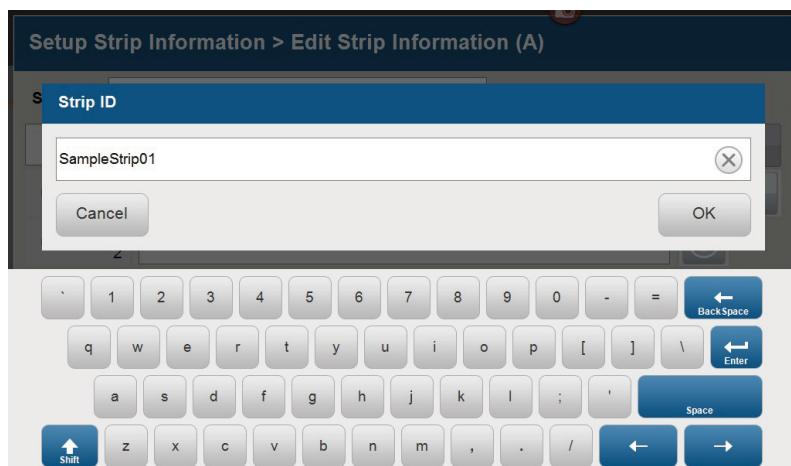

Figure 83. 'Set Strip ID' window.
1. A default Strip ID is displayed. If preferred, enter a new Strip ID for the selected lane by selecting the **Strip ID** box. This opens the 'Set Strip ID' window, and a keypad will become active on the touch screen (Figure 83). Alternatively, the Run ID can be entered using a traditional keyboard if one is connected to the Spectrum Compact CE System. Enter the appropriate Strip ID, and then select **OK** to exit and return to the 'Edit Strip Information' screen. The following table lists rules for characters that can be used for a Strip ID.